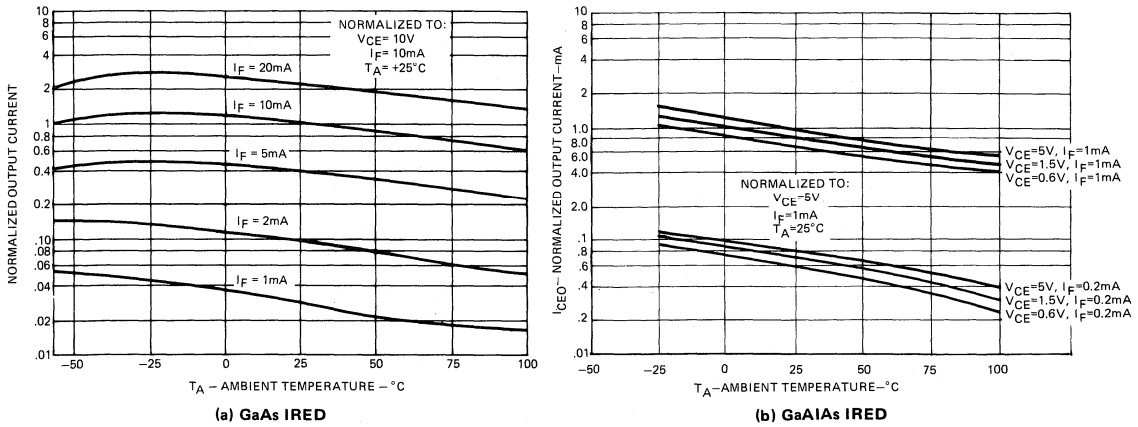

Fig. 40 - Bias effects on CTR temperature coefficient.
**c. Phototransistor** The phototransistor response is the product of the photodiode current and the current gain ( $h_{FE}$ ;  $\beta$ ) of the npn transistor. The photodiode current is very slightly affected by temperature, voltage and current level, while the transistor gain is affected by all of these factors. In the case of temperature, the gain variation offsets the temperature effects on IRED efficiency, giving a low temperature coefficient of IRED-transistor current transfer ratio (CTR). Due to voltage and current effects, this temperature coefficient will vary with bias level as illustrated in Figure 40. As different manufacturers use different processes in IRED, phototransistor and coupler manufacturing, considerable variation in the CTR temperature coefficients is found from manufacturer to manufacturer.